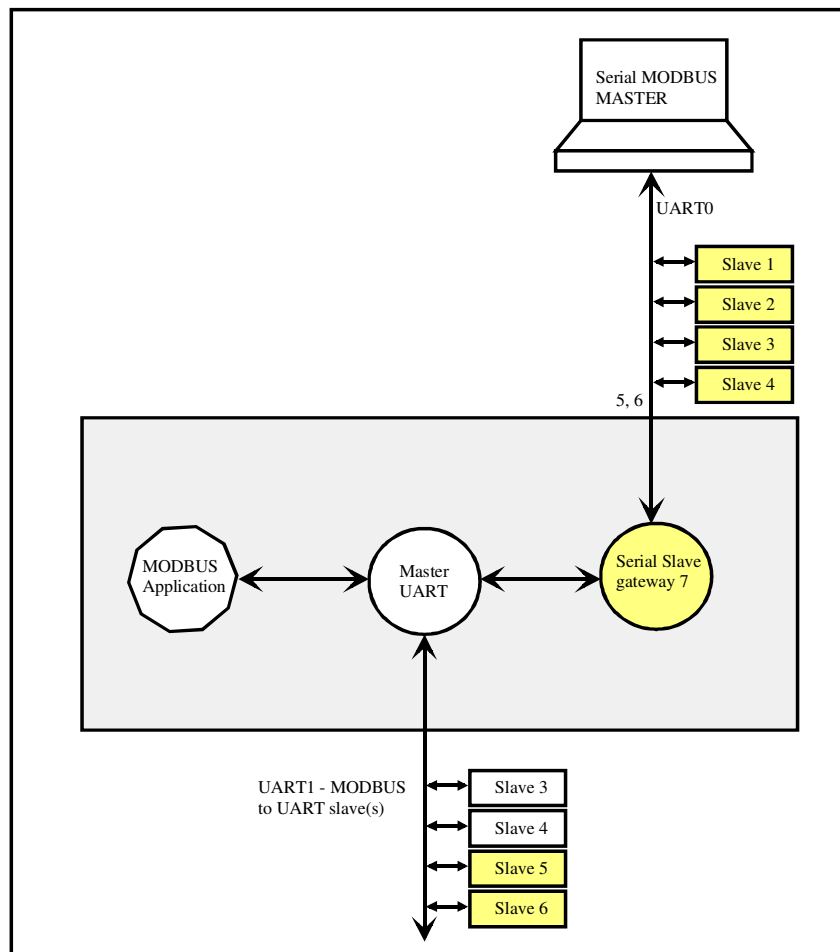

Figure 14-2: A MODBUS Serial Bridge acting as an address aperture
In figure 14-2 the serial slave gateway has been configured with its own slave address (7). It ignores slave addresses below 5 so that the external MODBUS master can access the devices on its local bus. Any higher addresses will be gateway'ed to UART1, meaning that the external MODBUS master also has access to remote slaves on the second bus through the defined address aperture.
The following show the complete configuration for the case as illustrated in figure 14-2: